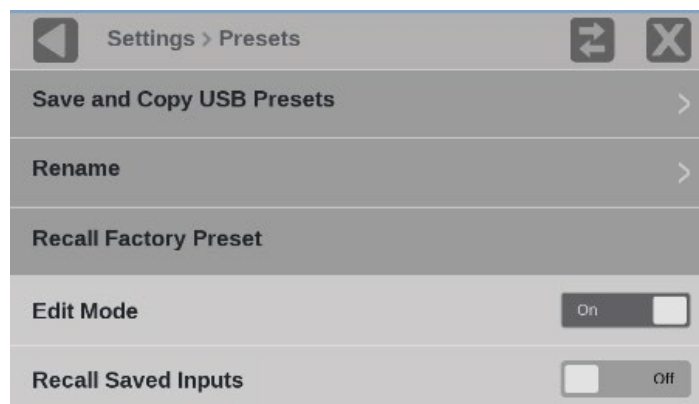

Figure 81: Presets submenu with Recall Saved Inputs set to Off
3. Set the Recall Saved Inputs to **Off**. (See Figure 81.)